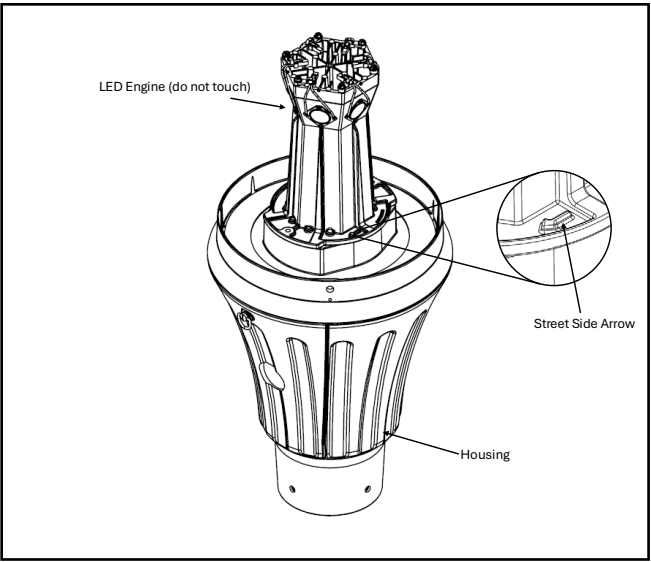

Figure 2.
3. Place luminaire on pole and rotate until the street side arrow on the luminaire is pointing toward the street or desired position. (Figure 2)